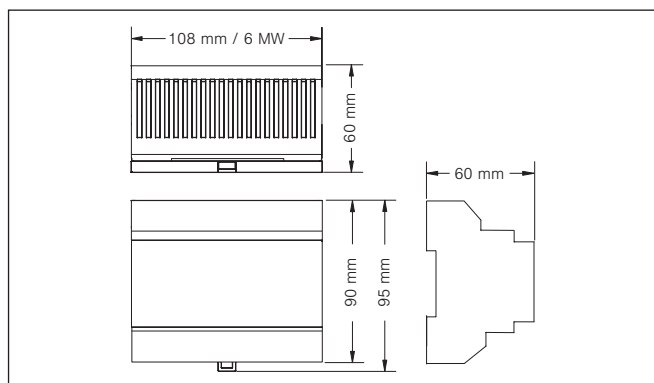
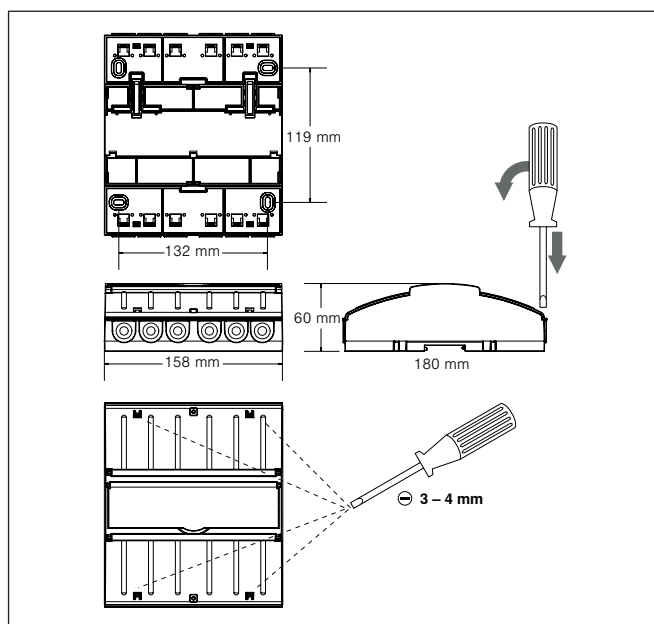

Fig. 3 Dimensions of 6 MW DIN rail-mounted housing for Omnexo Switch actuator 4MDC REG
Fig. 4 Surface-type housing dimensions
- AP: Insert a slotted screwdriver (3–4 mm blade) into the appropriate cover opening (see Fig. 4) and carefully pry the hinged cover open. Repeat the procedure for the second opening of the cover. After both latches have been unlatched, the cover can be flipped open. Open the second cover in the same way. Alternatively, the AP variant may also be mounted on a DIN rail (TH 35-15). This device type is not suitable for use in damp locations.
Dimensions	see Fig. 3 and Fig. 4